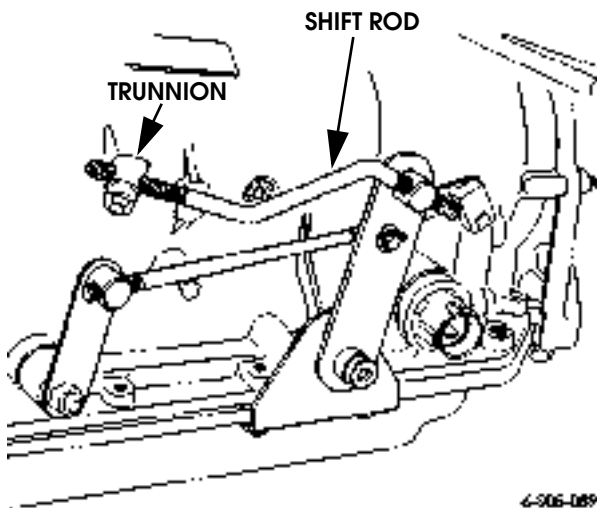

Figure 5-46: Transmission Shift Rod and Trunnion
4. Disconnect transmission shift rod trunion from shift control arm (Figure 5-46).